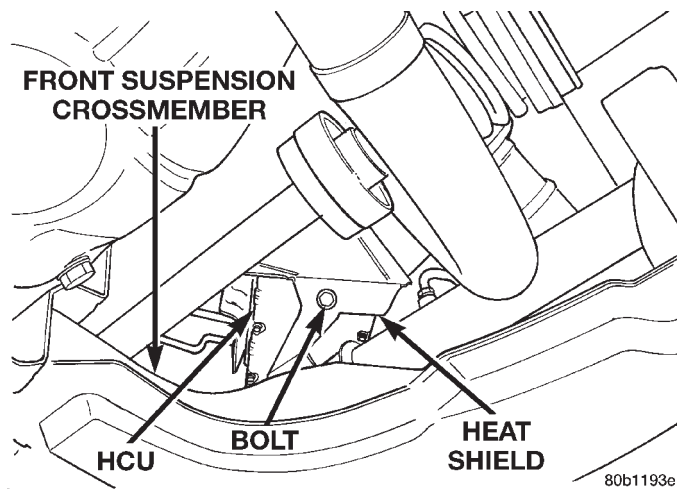
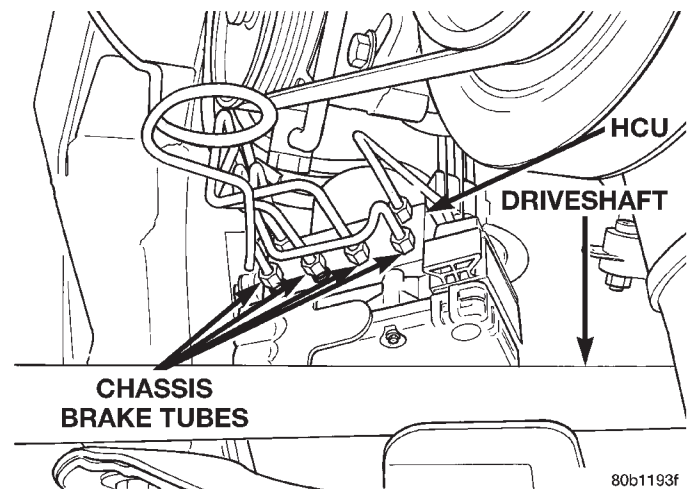

Fig. 26 HCU Heat Shield
Fig. 27 Chassis Brake Tube Connections To HCU
(7) Remove the heat shield for the HCU from the HCU mounting bracket (Fig. 26).
(8) Using Mopar, Brake Parts Cleaner or an equivalent, thoroughly clean all surfaces of the HCU. Also, thoroughly clean all brake tube to HCU connections.
(9) Remove the 4 chassis brake tubes from the outlet ports on the HCU (Fig. 27).
(9) Install the 4 chassis brake tubes in the outlet ports on the HCU (Fig. 27).
(11) Install the HCU heat shield (Fig. 26) on the HCU mounting bracket. Install and securely tighten the attaching bolt.